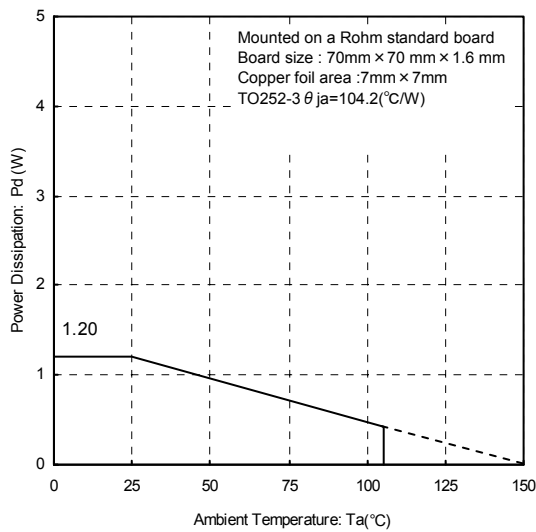
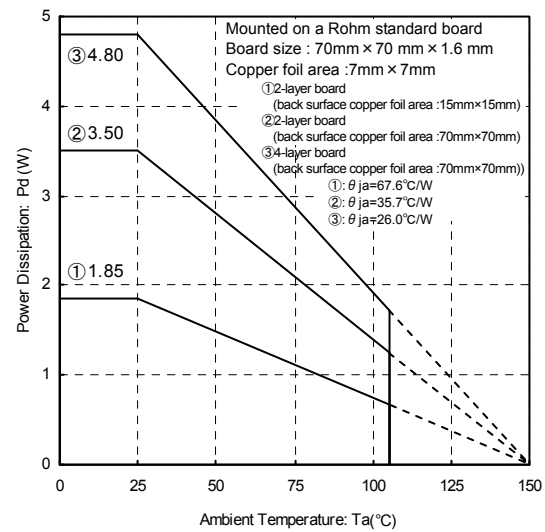

Fig.20
Fig.21(reference data)
When using at temperatures over $T_a=25^{\circ}\text{C}$, please refer to the heat reducing characteristics shown in Fig.20 and Fig.21. The IC characteristics are closely related to the temperature at which the IC is used, so it is necessary to operate the IC at temperatures less than the maximum junction temperature $T_{j\text{max}}$.
Fig.20 and Fig.21 shows the acceptable loss and heat reducing characteristics of the TO252S-3 package. Even when the ambient temperature T_a is a normal temperature (25°C), the chip (junction) temperature T_j may be quite high so please operate the IC at temperatures less than the acceptable loss P_d .
The calculation method for power consumption $P_c(\text{W})$ is as follows : (Fig.21③)
$$\left[\begin{array}{l} \text{Fig.21③} : \theta_{ja}=26.0^{\circ}\text{C/W} \rightarrow -38.4\text{mW/}^{\circ}\text{C} \\ 25^{\circ}\text{C}=4.80\text{W} \rightarrow 85^{\circ}\text{C}=2.496\text{W} \end{array} \right]$$